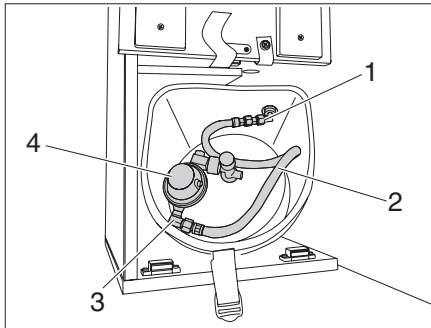

Fig. 58 Gas tube with gas pressure regulator
- Only use special gas pressure regulators (Fig. 58,4) with a safety valve for use in vehicles (included with new vehicles). Other gas pressure regulators are not allowed.
- Screw the elbow (Fig. 58,3) onto the gas tube (Fig. 58,2).
- Screw the gas pressure regulator (Fig. 58,4) onto the elbow.
- Screw the gas tube (Fig. 58,2) with the gas pressure regulator onto the connecting piece (Fig. 58,1).